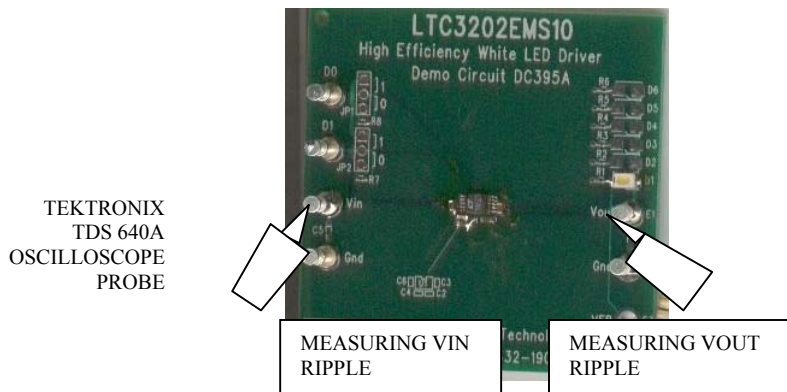

Figure 2 Proper Noise Measurement Technique
- When measuring the input/output voltage ripple care must be taken to avoid a long ground return for the oscilloscope probe. After removing the grabber and outer plastic sleeve from the scope probe, measure the input ripple by touching the probe between VIN and GND. Measure the output ripple by touching the probe between VOUT and GND as shown in Figure 2.